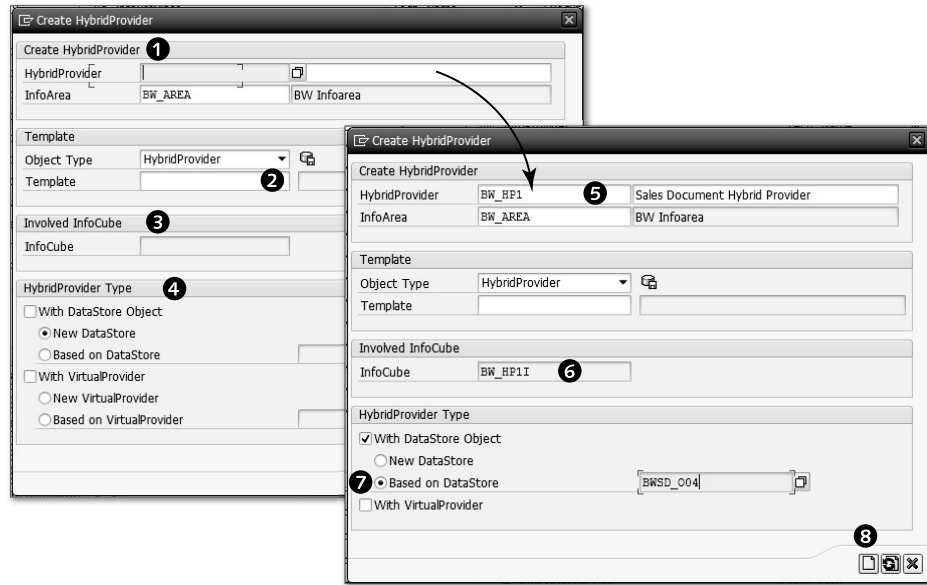
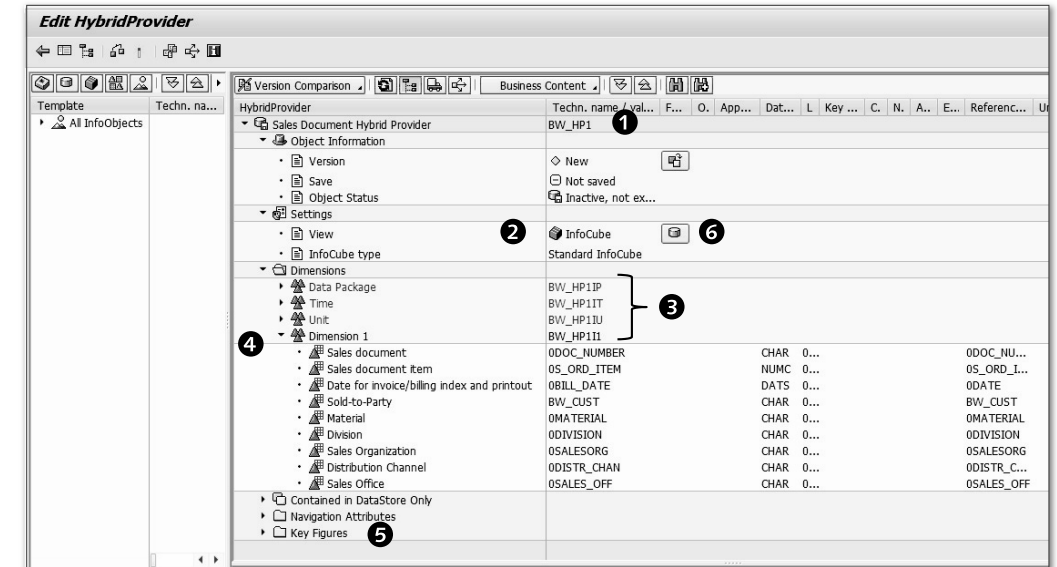
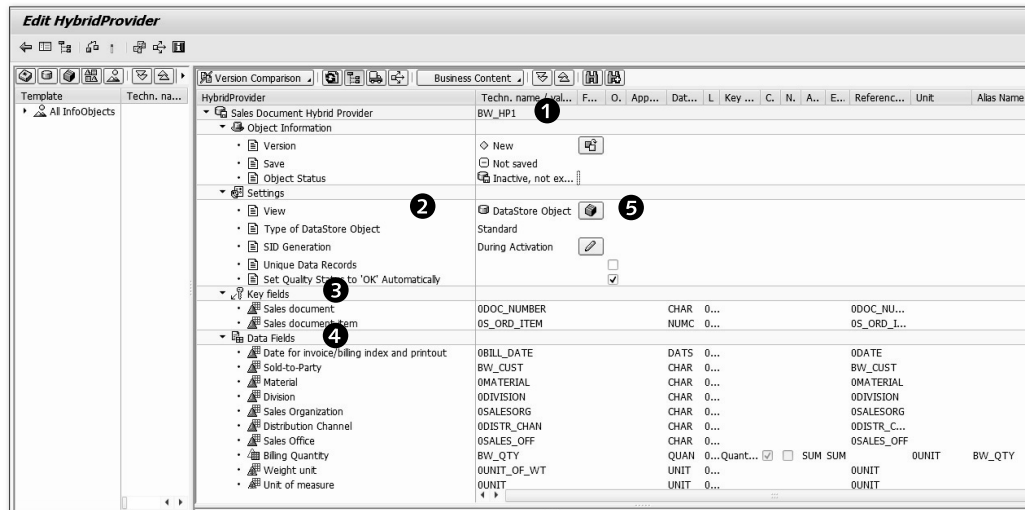

Figure 6.62 Editing a HybridProvider: Part 1
Figure 6.63 Editing a HybridProvider: Part 2
Figure 6.64 DataStore Object View of the Edit HybridProvider Screen
Select the InfoArea BW_INFOAREA under which you want to create your Hybrid-Provider ③. From the context menu, select CREATE HYBRIDPROVIDER ④. The CREATE HYBRIDPROVIDER screen appears, as shown in ① of Figure 6.62.
Using a template (② of Figure 6.62) allows you to create a new HybridProvider based on an existing HybridProvider. The InfoCube is part of the definition of the HybridProvider, and the name of the InfoCube involved in the HybridProvider is shown under INVOLVED INFOCUBE ③. The type of the HybridProvider is selected from HYBRIDPROVIDER TYPE ④.
As soon as you select this, the system selects the name of the involved InfoCube (BW_HP1I), as shown in 6 of Figure 6.62. To continue with the definition, click on the **CREATE** icon 8. This brings you to the screen shown in Figure 6.63.
As shown in 1 of Figure 6.63, the name of the HybridProvider is displayed. The system shows the **INFOCUBE** view 2, which means that the system displays dimensions and key figures, as shown in 3, 4, and 5. The system automatically creates the dimensions Data Package, Time, Unit, and Dimension 1, and all of the involved key figures are shown under the **KEY FIGURE** heading. You can jump to the **DATASTORE OBJECT** view by clicking on the DSO icon 6. This switches the display to the DSO view of the HybridProvider, as shown in Figure 6.64.
As shown in Figure 6.64, the definition of the DSO ❶ included in the HybridProvider is shown with SETTINGS ❷, KEY FIELDS ❸, and DATA FIELDS ❹. By clicking on the INFOCUBE icon ❺, you can switch back to the InfoCube view.